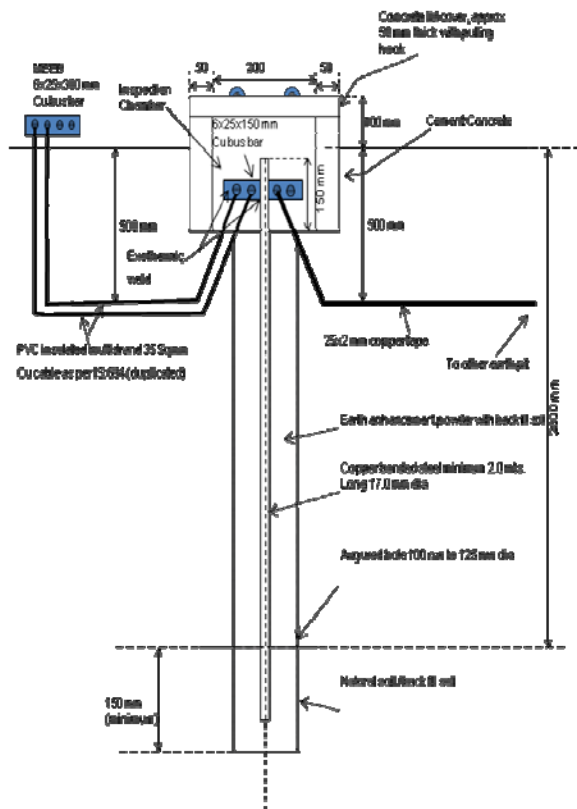

Figure 3: Installation of maintenance-free earth
- Figure 3 shows the installation of maintenance free earth for S&T installations with reference to typical installation drawing no. SDO/RDSO/E&B/001 dated 19.09.2008.